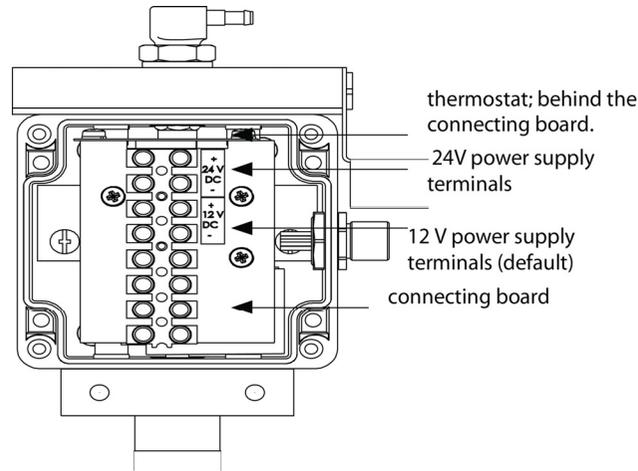

Figure 3 Connecting Board
2. Remove the connecting board (Figure 3) by unscrewing the 3 screws.